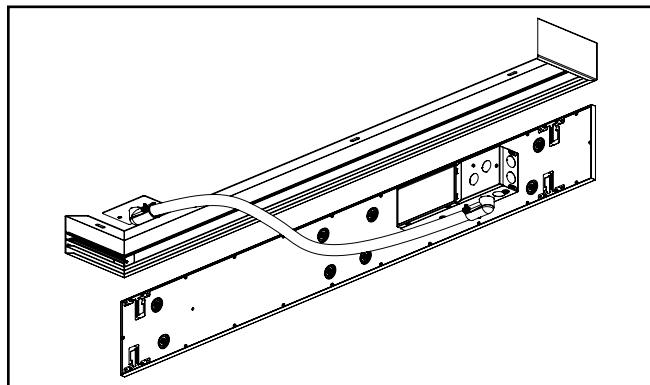

Figure 7.
- A7. Use flexible metal conduit with 90-degree conduit fittings to bring supply conductors into the wiring compartment on the back of the fixture. Wire according to instructions included with the fixture. (Figure 7.)